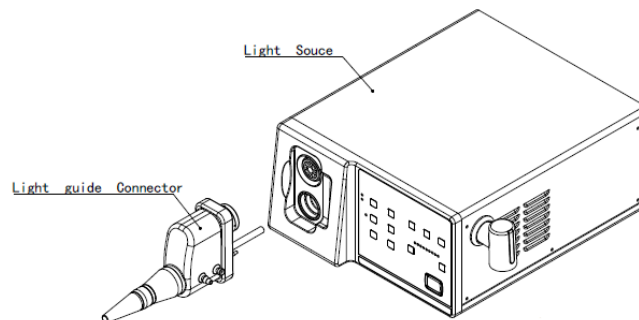

Figure 3.1
1. Plug the light guide connector into the socket of the video system center according to Figure 3.1.